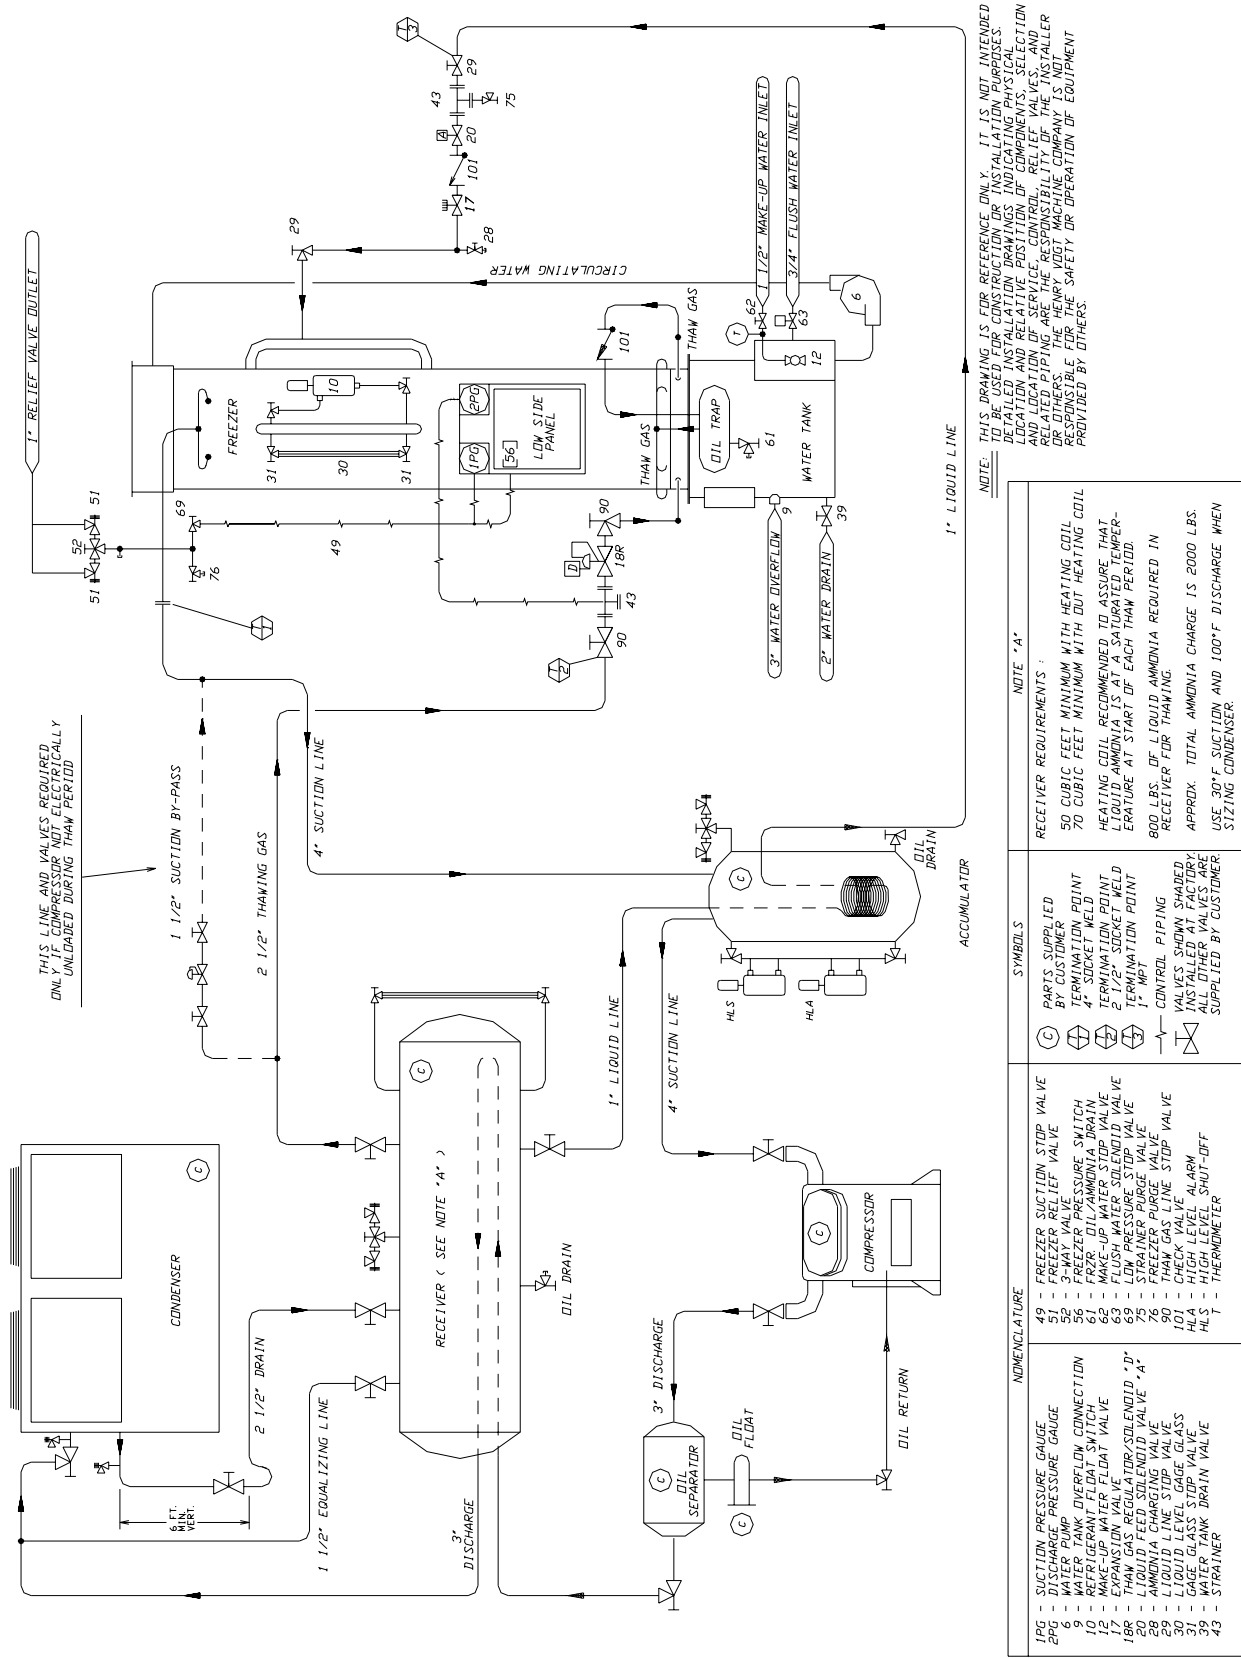

FIGURE 3-11
cycle is 50% (75% is preferred). If the compressor cannot be unloaded then a hot gas bypass to the suction line must be installed. See Figures 3-11 through 3-14.
Refrigeration System Review. The refrigeration system uses anhydrous ammonia (R-717) refrigerant. Following the piping schematic (Figure 3-11 to 3-17 and 4-1 or 4-2), you will see that during the machine's freeze cycle, the compressor discharge gas goes through the oil separator to remove any oil present in the discharge gas and return the oil to the compressor crankcase. It is then discharged into the condenser and condensed into a liquid by the removal of heat by water passing through the condenser tubes. A reservoir of liquid R-717 (800 lbs. for P34AL-15) is accumulated in the receiver and is required for thawing purposes (see Table 3-2). Liquid from the receiver flows through the strainer to the "A" solenoid valve (20), which opens and closes by action of the low side float switch (10), flooded unit only. The liquid is then expanded through the hand expansion valve (17) and into the evaporator (2) (freezer). The cold wet R-717 refrigerant floods the evaporator and is in contact with the outside of the ice making tubes which water is being circulated through. The heat contained in the water passes through the wall of the tubes, lowering the temperature of the water causing it to freeze and form a long tube of ice that adheres to the inside of freezer tubes. Since the purest water freezes first, the circulating water continues to wash the dissolved solids down into the sump area of the water tank. The flushing valve helps to rid the water tank of increased dissolved solids by flushing them out the overflow during the harvest (thawing) period.